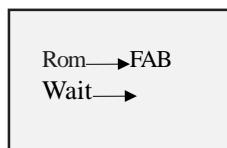

Fig. 4.20
2. Press → in the state shown in Fig 4.20, then the program will be read, block by block (in sequence as B01,B02,...)
The SET Frame is shown in Fig. 4.20. A password and real time clock can be set for the edited FAB function program via this SET Frame. When you want to modify the control function, the said password shall be properly input before the editing modification status can be entered (note: the ex-factory password of FAB is 0001). This function is the password lock function of FAB.